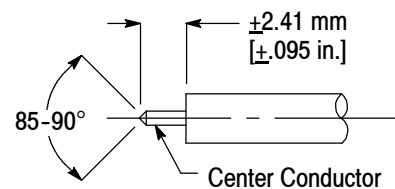

Figure 3
5. Cut the inner conductor to the dimension shown in Figure 3. Then, trim the inner conductor to the dimension shown in Figure 3.
6. File the blunt end of the inner conductor to a cone between 85 and 95°. Refer to Figure 3.